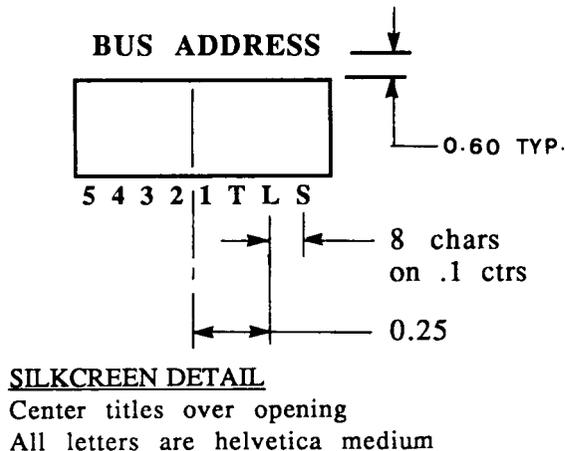

Figure A-9 Address Switch Silkscreen Detail
6. Mark or silkscreen the switch functions onto the rear panel as shown in Figure A-9